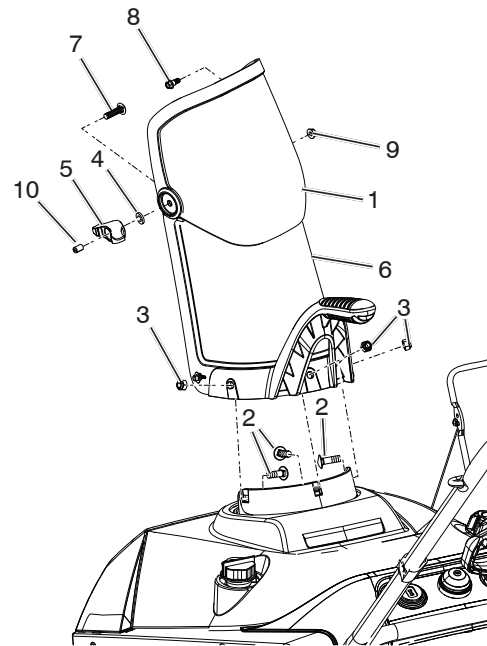

Figure 4
- Install the chute deflector to the discharge chute using bolts and, washer, nut, deflector knob and cap plunger (Figure 4).
- Install the discharge chute to the chute base using three screws and nuts (Figure 4).